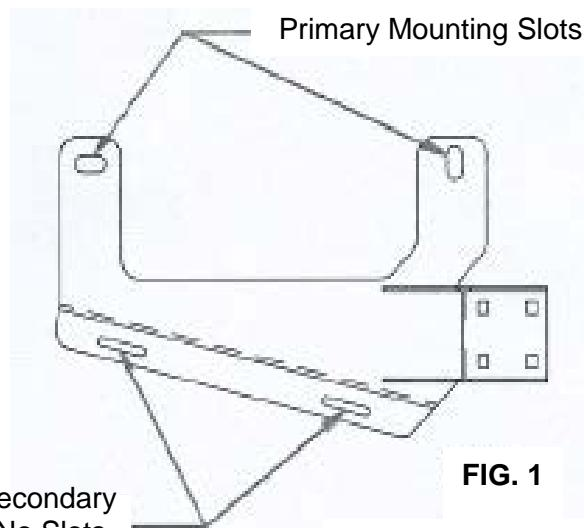

FIG. 1
3. Lift up on the front of the seat and place the FP-144 on to the threaded studs using the primary mounting slots (see FIG. 1).
4. There are secondary mounting slots available if you wish to fasten the FP-144 to the floor with self-drilling screw or bolts (see FIG. 1).